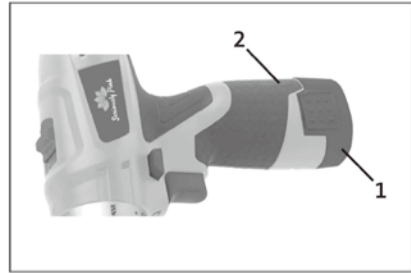

Fig. 3
1. Remove the discharged battery (1) from the tool by pressing on the battery release button (2) on the sides of the battery (Fig. 3).